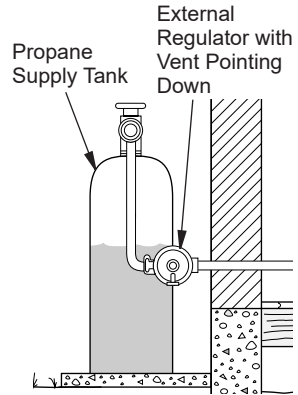

Figure 15 - External Regulator with Vent Pointing Down
1. Open equipment shutoff valve (see Figure 15).